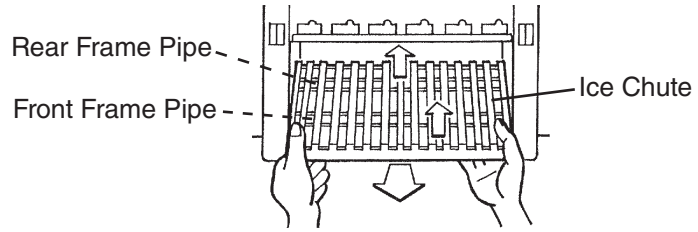

**Fig. 39**
- 3) Remove each separator by lifting it to the horizontal position and pushing it hard inward. See Fig. 39.